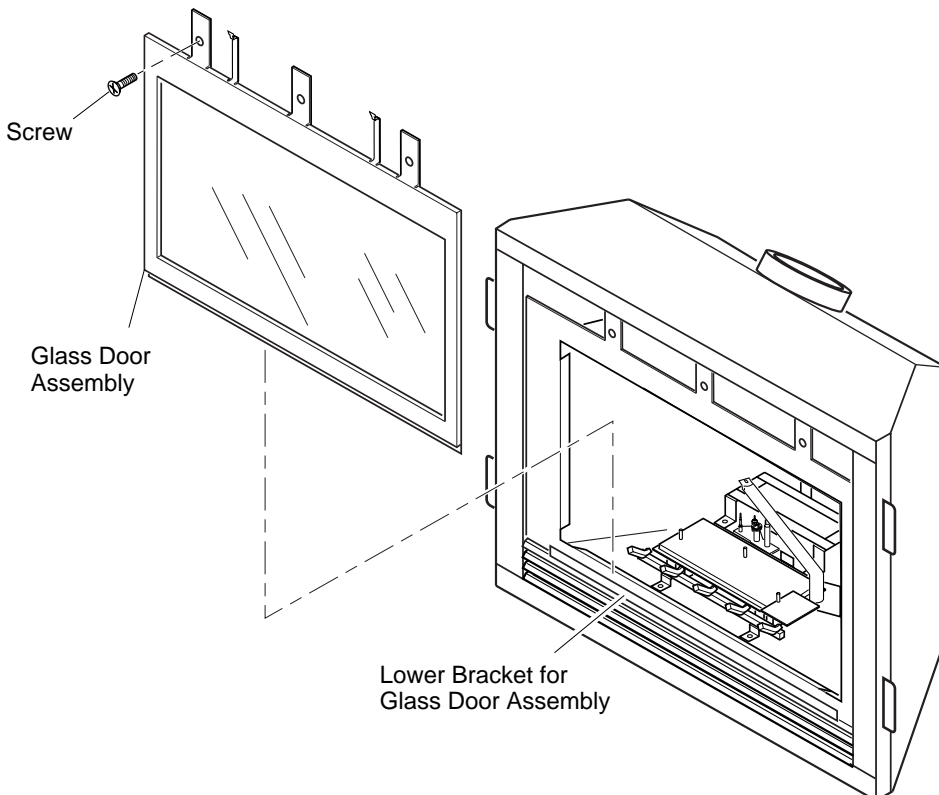

Figure 44 - Removing/Replacing Glass Door
4. Grasp door by both sides and ease it upward off of the lower bracket (see Figure 44, page 22).